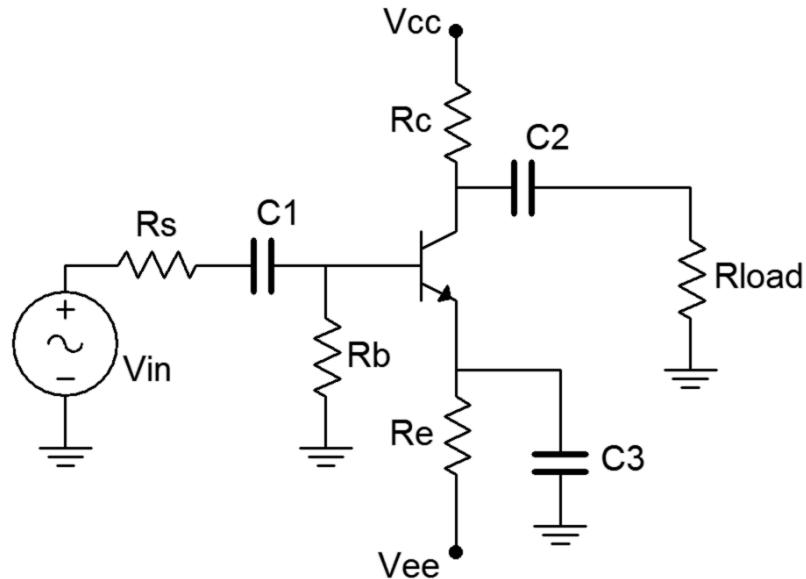

Figure 1
1. Consider the circuit of Figure 1 using $V_{cc} = 15$ volts, $V_{ee} = -12$ volts, $R_s = 10 \text{ k}\Omega$, $R_b = 33 \text{ k}\Omega$, $R_e = 22 \text{ k}\Omega$, $R_c = 15 \text{ k}\Omega$, $R_{load} = 20 \text{ k}\Omega$, $C_1 = C_2 = 10 \mu\text{F}$ and $C_3 = 470 \mu\text{F}$. Using the approximation of a negligible base voltage, determine the DC voltages at the base, emitter, and collector along with the collector current, and record these in Table 1.
2. Build the circuit of Figure 1 using $V_{cc} = 15$ volts, $V_{ee} = -12$ volts, $R_s = 10 \text{ k}\Omega$, $R_b = 33 \text{ k}\Omega$, $R_e = 22 \text{ k}\Omega$, $R_c = 15 \text{ k}\Omega$, $R_{load} = 20 \text{ k}\Omega$, $C_1 = C_2 = 10 \mu\text{F}$ and $C_3 = 470 \mu\text{F}$. Make sure that the AC source is turned off or disconnected. Measure the DC voltages at the base, emitter, and collector along with the collector current, and record these in Table 1. Note, you may wish to use a transistor curve tracer or beta checker to get approximate values of beta for each of the three transistors to be used.